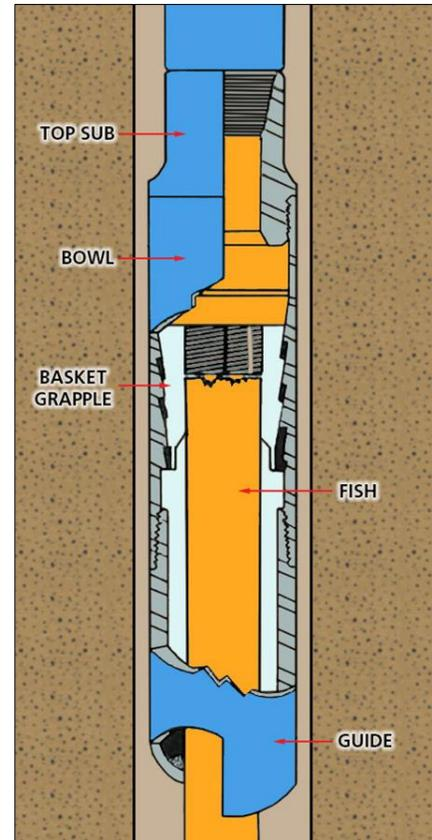

Figure 11
- Lower the string slowly without circulation, with slow rotation to the right. If the overshot is centered over the fish, the lowering and right-hand rotation of the string forces the grapple upward within the tapered helix of the bowl, allowing the grapple to expand and the fish to enter the overshot (figure 11).